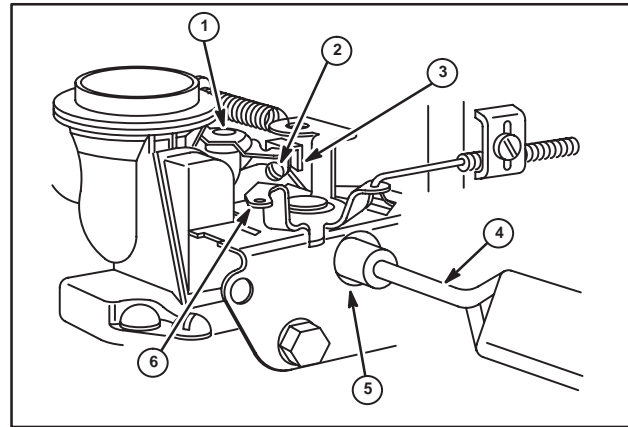

Fig. 57
1. Place governor speed control (6) lever in "FAST" position.
2. Using tool (4), turn needle valve (5) until engine misses (clockwise – lean mixture) then turn needle valve out (counterclockwise) 3/8 turn, Fig. 57.
3. Rotate throttle (1) counterclockwise and hold against stop.
4. Adjust idle speed adjusting screw (2) to obtain 1750 RPM.